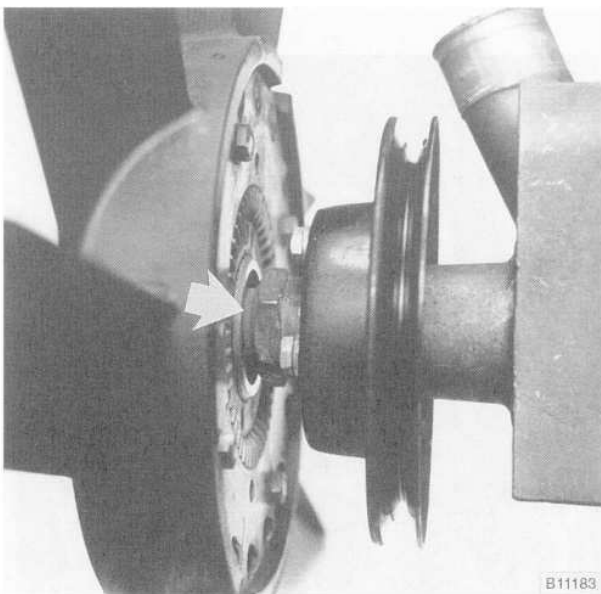

Fig. 20. Radiator cooling fan nut (arrow).
1. Place a 32 mm wrench on fan clutch nut. See Fig. 20. Strike wrench quickly in a clockwise direction (working from front of car) to loosen nut. Spin fan off pump.